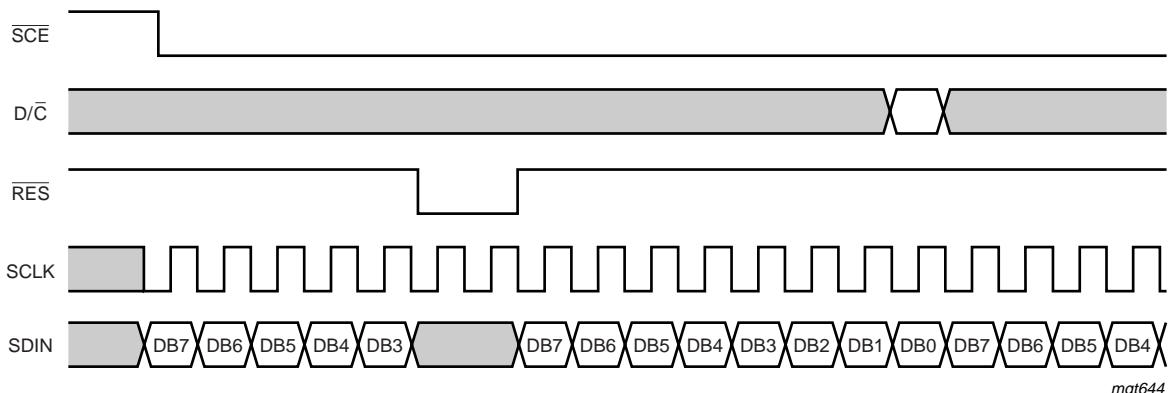

Fig.11 Serial interface reset (RES).
- If pad SCE stays LOW after the last bit of a command or data byte, the serial interface expects bit DB7 of the next byte at the next positive edge of SCLK (see Fig.11). If pad SCLK goes LOW after the last data bit (bit DB0), either:
- A reset pulse RES interrupts the transmission. No data is written into the RAM and the registers are cleared. If pad SCE is LOW after the positive edge of pad RES, the serial interface is ready to receive bit 7 of a command or data byte as shown in Fig.11.